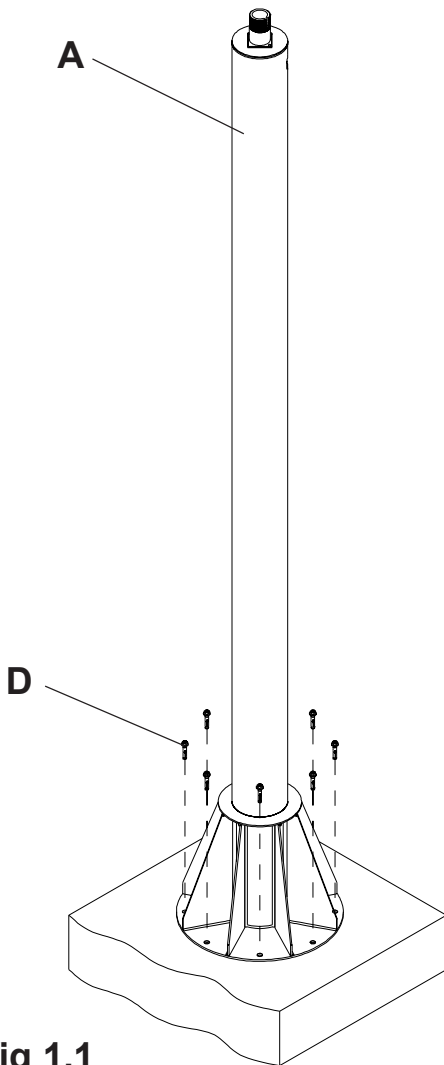

fig 1.1
- 1 Drill eight 3/8" (10 mm) dia. holes to a minimum depth of 3" (76 mm). Remove any debris from holes. Attach support column (A) using concrete expansion anchors (D) as shown in figure 1.1 and 1.2. Tighten anchors to 35 ft. • lb (47 N.M.).